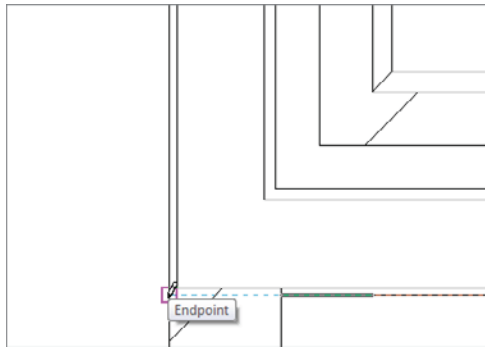

FIGURE 2.49 Adding to the mess in the corner
3. With the Chain button off and Location Line set to Finish Face: Interior, to start the wall, pick the intersection where the CMU wall abuts the finish inside face of the exterior wall (see Figure 2.49). Again, you can turn on Thin Lines to get a better view of what you're looking at.